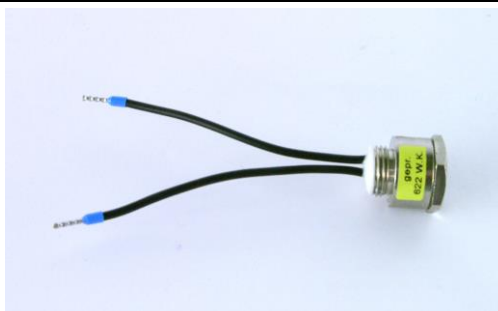

Figure 06: Terminator
It is necessary to terminate the data link on both sides of the cable. In the Remote Indicator II a terminating resistor is already integrated. The terminator (see figure 06) for the VN93 or VN87plus (EX) unit is scope of supply of the Remote Indicator II package as well as the grommet for the cable entry.